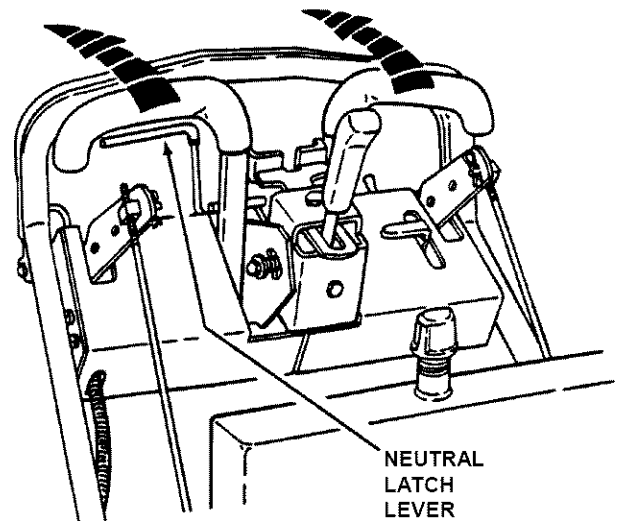

FIGURE 3.6
4. To start machine movement, simultaneously squeeze both Traction Controls SLOWLY back towards the handlebar, allowing machine to start reverse movement. See Figure 3.6.